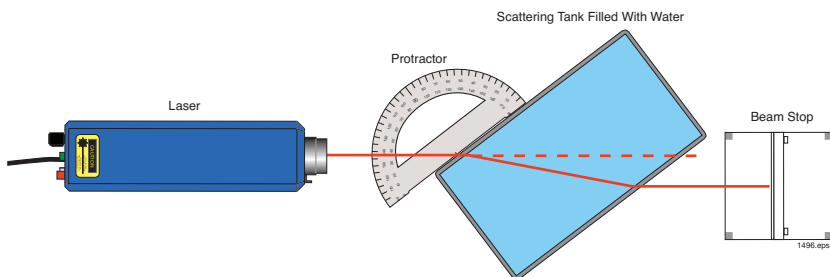

Figure 8. Top view of the laser beam changing direction as it travels through the water.
14. Move the scattering tank back into the path of the laser and rotate it approximately 30° in relation to the laser beam, using the protractor as a reference as shown in Figure 8.
15. Observe the bending of laser beam light by looking down from directly above the laser as shown in Figure 8.
22. Observe the increase in bending of light rays by looking down from directly above the laser as shown in Figure 8. Does the laser light beam appear to bend more when sugar is dissolved in water? Why or why not?